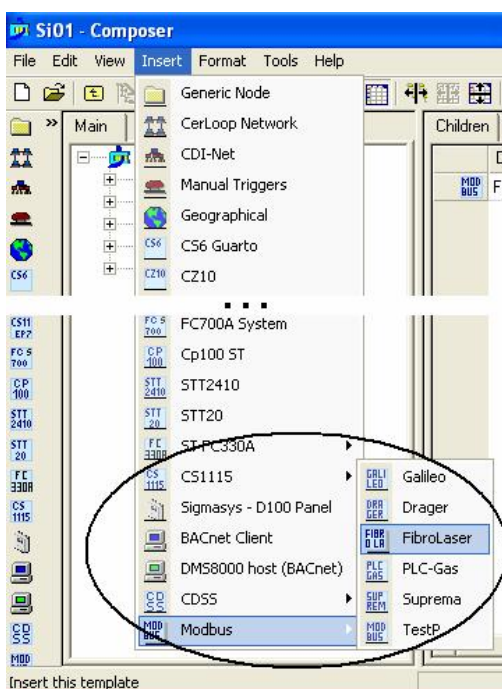

Fig. 19 Adding a MODBUS subsystem
2. Click the MODBUS icon  in the icon bar or in the 'Insert' menu (see Fig. 19) and select the type, i.e. one of the customised models currently available.